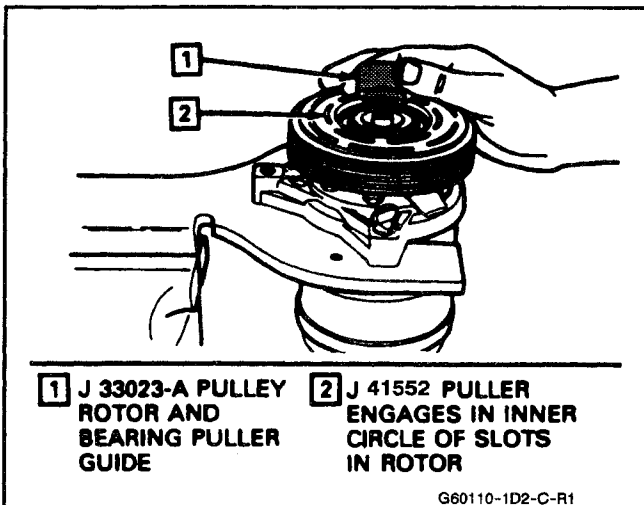
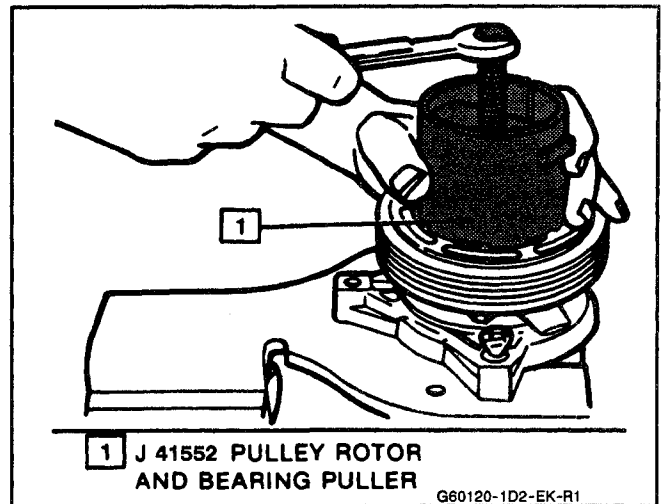

Fig. 7 Installing Pulley Rotor/Bearing Puller Guide
Fig. 8 Removing Pulley Rotor and Bearing Assembly
5. Install the clutch plate and hub installer-remover J 33013-B with bearing as shown in Figure 8.
3. Install pulley rotor and bearing puller guide J 33023-A to the front head (Fig. 7) and install J 41552 pulley rotor and bearing puller down into the inner circle of slots in the rotor. Turn the J 41552 puller clockwise in the slots in the rotor (Fig. 8).